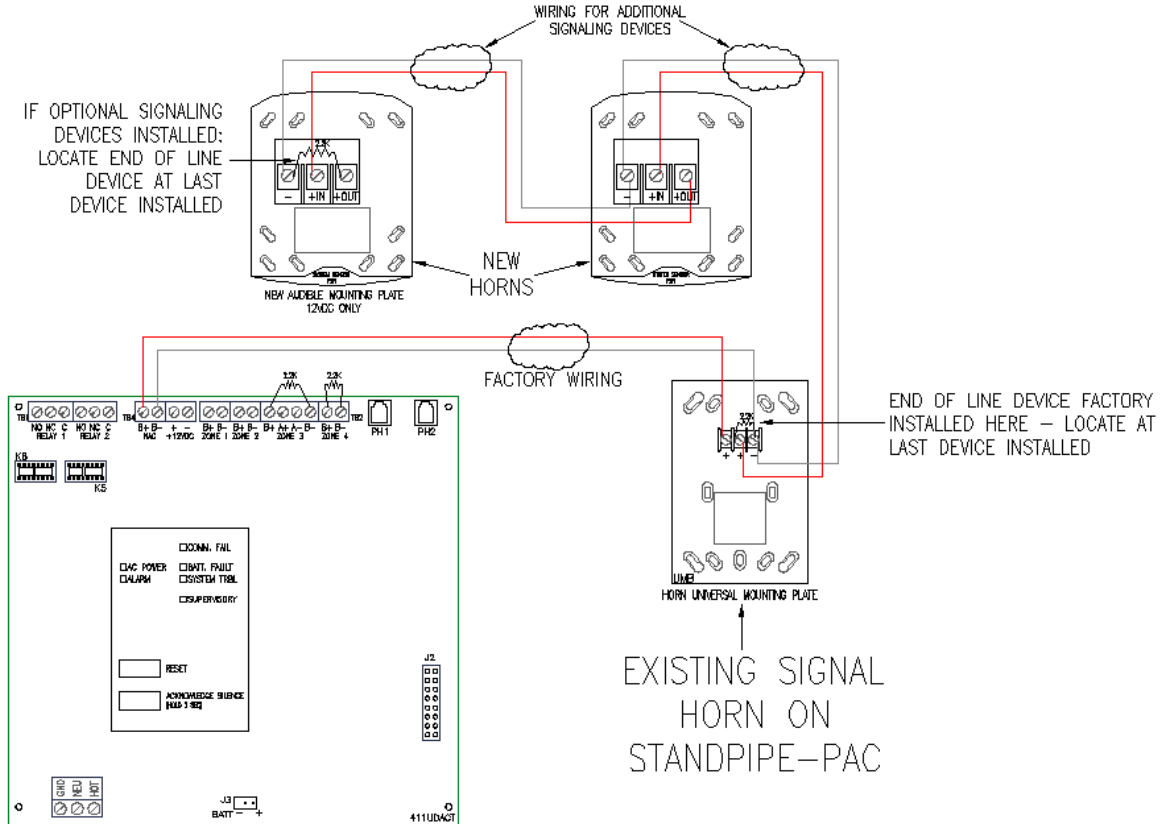

Figure 9 – Wiring Diagram – Notification Appliance Circuit
3.3.4.5. Optional Signal Wiring. See Figure 9. If additional audible devices are desired, connect these devices to the notification appliance circuit serving the signal horn on the **STANDPIPE-PAC™** unit. See Appendix D for additional information, including power capacity of notification appliance circuit. Additional horns are available from UNITED Fire Systems – P/N 03-100006-201.